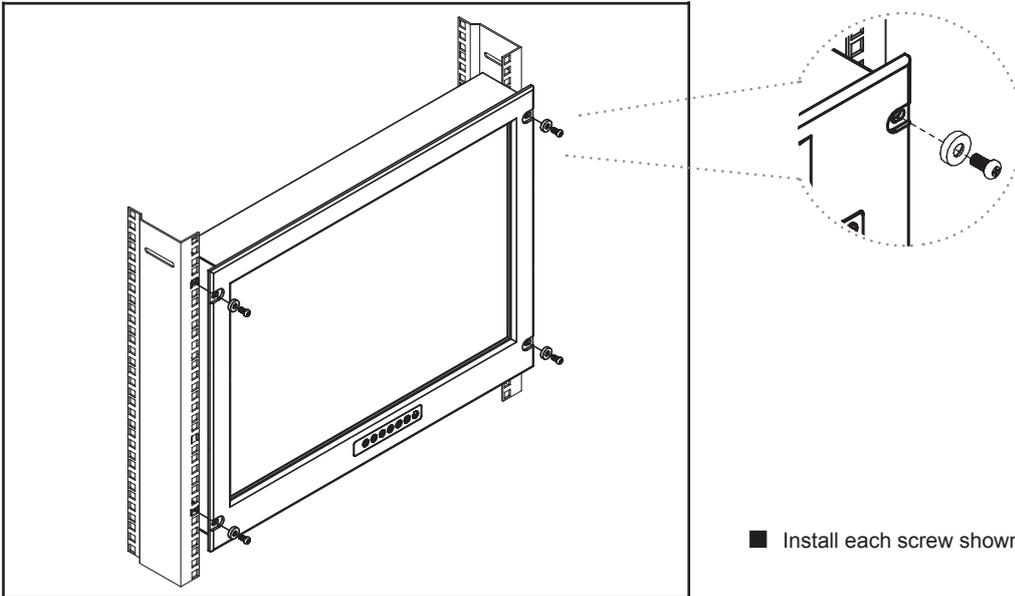

Figure 1.
- Install each screw shown in **Figure 1**.